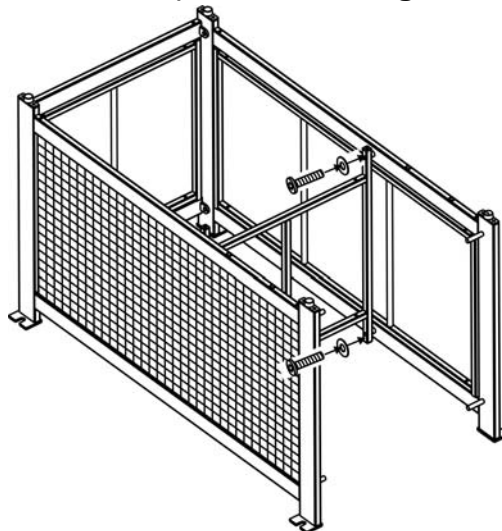

Figure 4
3. Attach the middle support to the side panels by using two 1/4"x30 mm bolts and Ø6.5x1.0 mm washers as shown in Figure 4. Guide the bolts through the holes in the middle support, into the pre-drilled holes in the side panels. **Hand tighten only.**